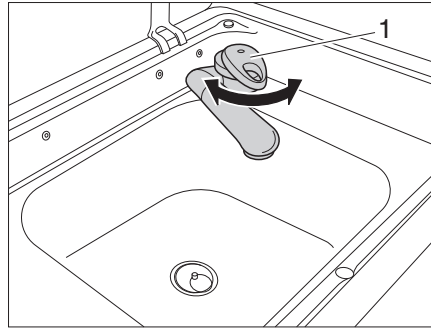

Fig. 95 Sink with water tap
The vehicle is equipped with an installed water canister. An electric water pump pumps the water to the water tap (Fig. 95,1). Opening the water tap automatically switches on the water pump and pumps water to the tap.
- Turn the water tap (Fig. 95/1).
- Turn the water tap (Fig. 95/1) back.